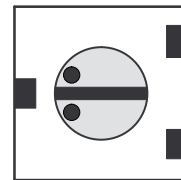

Figure 22. Initial Position of P1
- **Without Thermal Compensation:** If the amplifier has to be used without the compensation, P1 (tuning of quiescent current) has to be set-up in its initial position before applying power supply (see Figure 22). When power supply is applied P1 is tuned to obtain 500 mA.